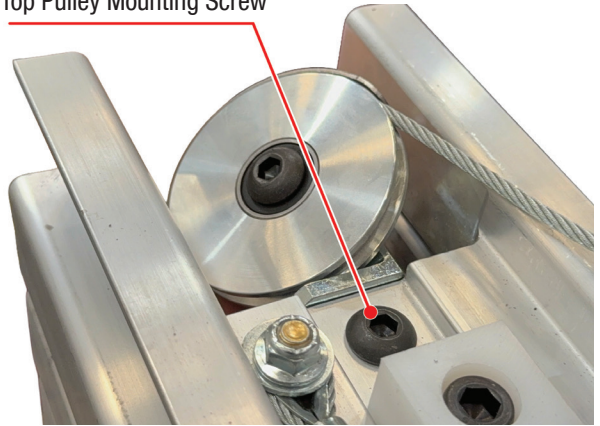

Figure 4-11: Loosening Top Pulley Mount Screw
21. Loosen the front mast's top pulley mounting screw using a **3/8 in. hex wrench** (see Figure 4-11). NOTE: Do not remove this bolt. Only loosen it enough to allow the front mast to slide down below the top of the second mast.
30. Loosen the second mast's top pulley mounting screw using a **3/8 in. hex wrench** (see Figure 4-11). NOTE: Do not remove this bolt. Only loosen it enough to allow the second mast to slide down below the top of the third mast.
39. Loosen the second mast's (model JML-12S only) or third mast's (model JML-16S only) upper pulley mounting screw using a **3/8 in. hex wrench** (see Figure 4-11). NOTE: Do